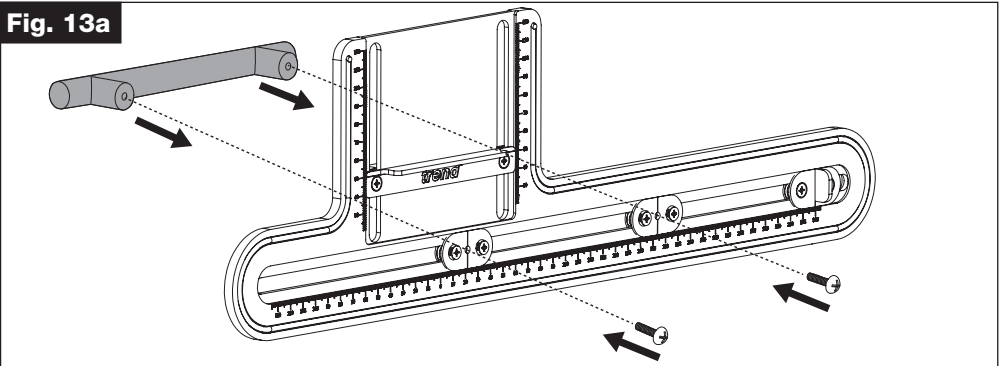

Fig. 13b
- Move the handle centrally about the 0mm/0" position, ensuring that the Drill Guides are equidistant from the 0mm/0" position (Fig. 13b).